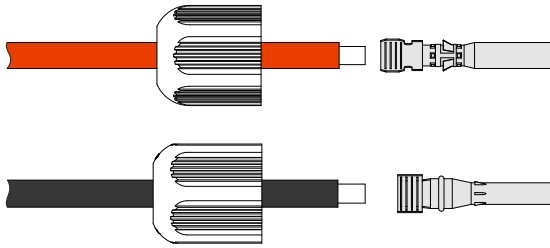

Figure3-16 Crimp the metal terminal
Step 2 Unscrew the lock nut of positive and negative connection, lead the positive and negative wires go through corresponding lock nut, and then insert the positive wire and negative wire into the positive metal terminal and negative metal terminal respectively. Crimp the metal terminals firmly by crimping pliers, as shown in Figure3-16.